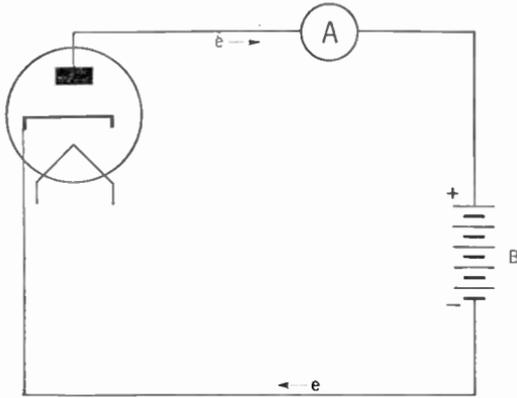

Figure 394. Circuit to show relationship between plate current and plate voltage.
If we connect our diode as in Figure 394, and keep the current from the filament battery constant, we are able to see the relationship between changes in the B or plate voltage and the number of electrons attracted to the plate (that is, the amount of plate current as measured by the ammeter).
*curve* of the diode. Arrange the circuit as shown in Figure 394 with a clip on one of the leads to the B battery. Connect a voltmeter across the part of the B battery which is suc-